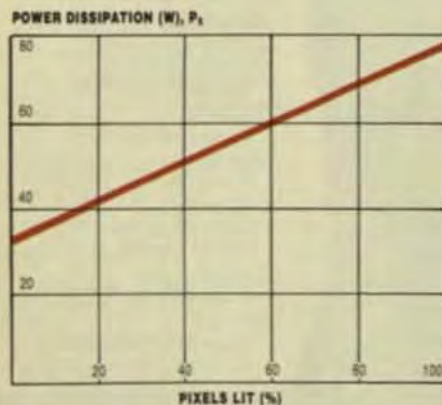

Fig 3 The power required by IBM's 581 panel is shown as a percent of pixels lit.
- The signal ground consists of seven pins. The power required by the panel as a function of the number of pixels is shown in Fig 3. The relationship on this linear relationship (the Y-axis